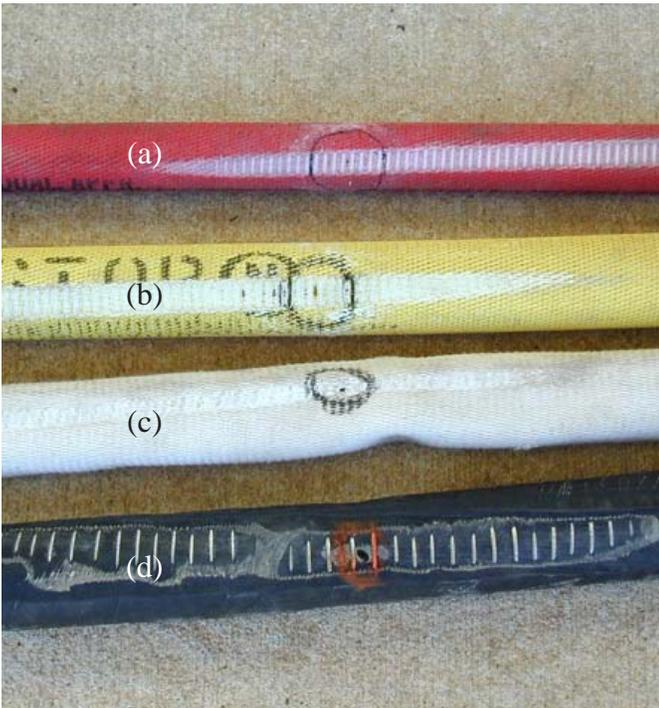

Figure 3—(a) REELTEX®, (b) HOTSTOP™, (c) cotton-synthetic, and (d) rubber-braided abrasion test samples.
Abrasion resistance testing is conducted using the Factory Mutual (FM) abrasion test machine and test method. Abrasion testing is held after 40,000 cycles without failure, as was noted with rubber wire-braided and HOTSTOP™ hose (figure 3).